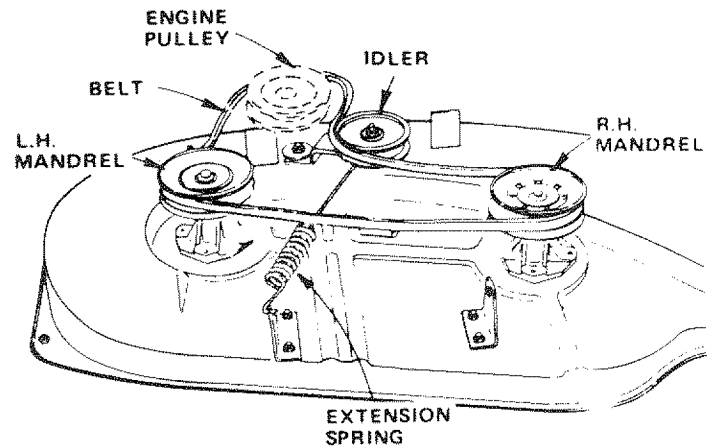

FIGURE 10
- d. Roll belt off engine pulley (Fig. 10).
- e. Remove belt from mower pulleys (L.H. and R.H. mandrels) and idler pulley (Fig. 10).